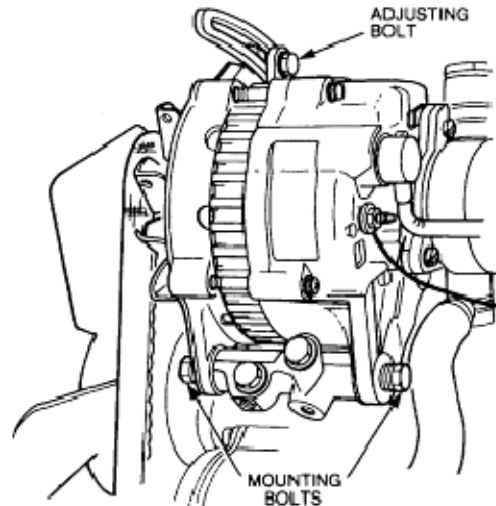

Figure 16 Alternator Adjusting Bolt
- a. Loosen the alternator mounting bolts and remove the adjusting bolt (Figure 16).